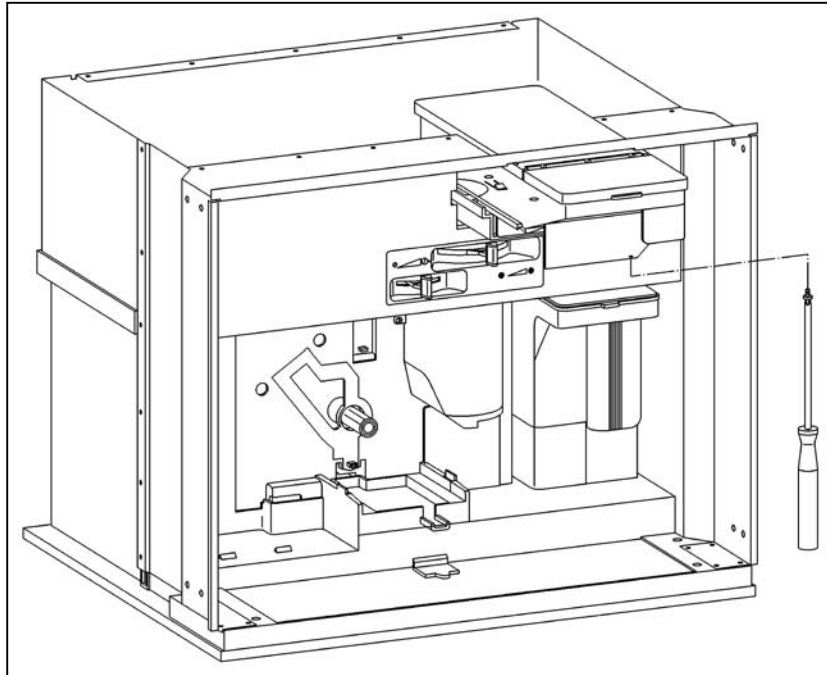

Figure 5-42: Removing the beans container.
2. Remove the Beans Container End Stop Screw (Figure 5-42).